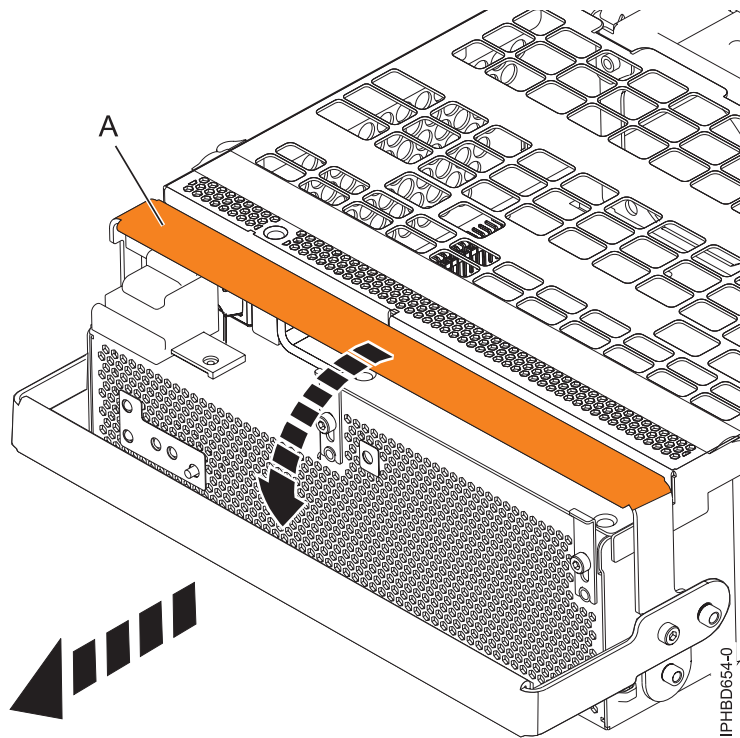

Figure 36. Removing a power supply
8. Rotate the power-supply locking handle (A) to the open position as shown in Figure 36, and then pull the power supply out of the expansion unit.